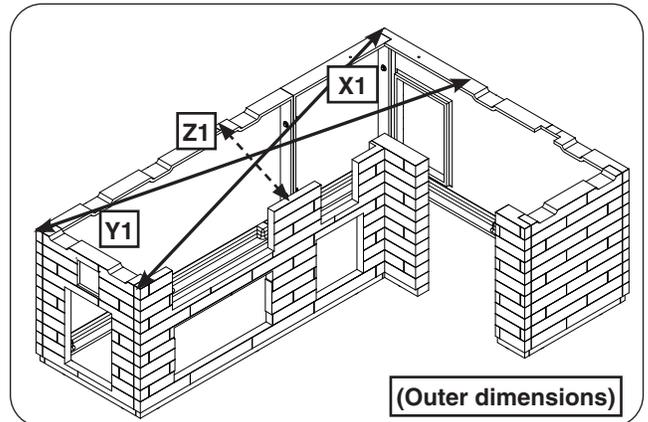

Fig. 14-2 Square unit
- a. Measure the X1 outer dimension, see Fig. 14-2. It should be approximately  $111 \frac{5}{8}$ ".
- b. Measure the Y1 outer dimension, see Fig. 14-2. Carefully adjust the walls as needed to ensure the X & Y dimensions are equal. (The final dimension may slightly vary from that mentioned in step a.)
- c. Measure the Z1 outer dimension, see Fig. 14-2. It should be approximately 32".